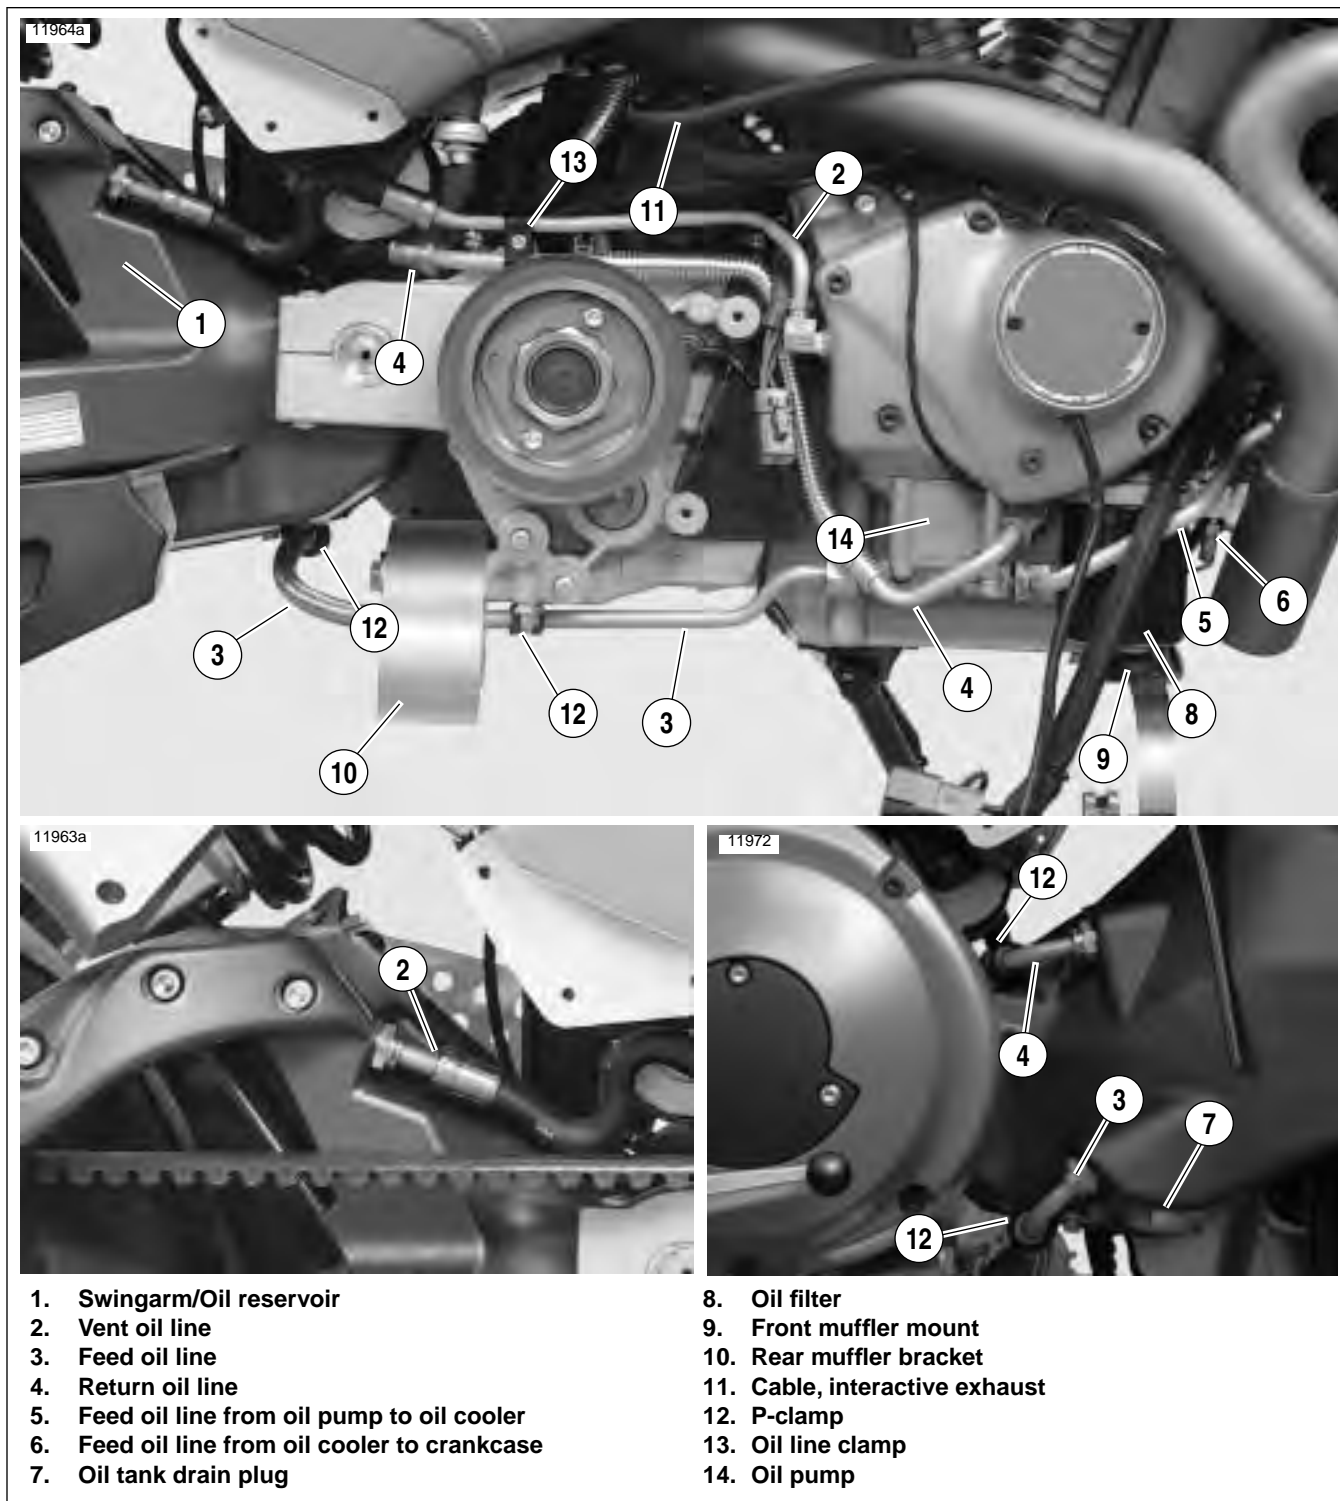

Figure 3-17. Oil Lines and Connections
17. See Figure 3-17. Remove oil filter (8).
25. See Figure 3-17. Remove vent oil line (2).
- a. Disconnect vent oil line (2) at gearcase cover.
- b. Remove clamp (13) in front of starter securing vent oil line to return oil line.
- c. Disconnect vent oil line at swingarm/oil reservoir (1) and remove. See 3.10 OIL LINE FITTINGS/REMOVAL.
26. See Figure 3-17. Remove feed oil line (3).
- a. Loosen fitting at oil pump (14).
- b. Remove two p-clamps (12) from feed oil line (one on crankcase and one on swingarm/oil reservoir).
- c. Remove feed oil line (3) at oil pump (14).
28. See Figure 3-17. Remove return oil line (4).
- b. See Figure 3-17. Loosen fitting at oil pump (14).
- c. Remove p-clamp (12) at swingarm/oil reservoir (1).
- d. Disconnect oil return line (4) at swingarm/oil reservoir (1). See 3.10 OIL LINE FITTINGS/REMOVAL.
- e. Disconnect oil return line (4) at oil pump (14) and remove.